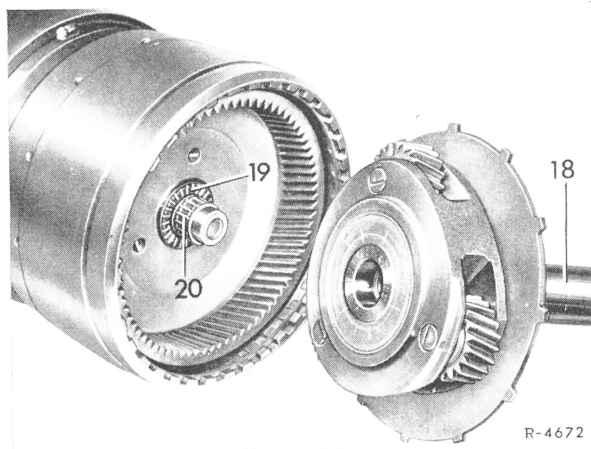

Fig. 1
- 1 Remove output shaft (18) together with rear planetary gear carrier.
- 2 Remove radial bearing (20) and axial bearing (19) (Fig. 1).